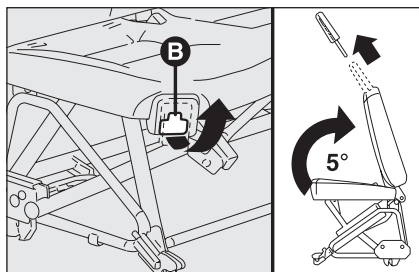

fig. 33
- raise lever **B**-fig. 33 (set under lever **A**) with your right hand;